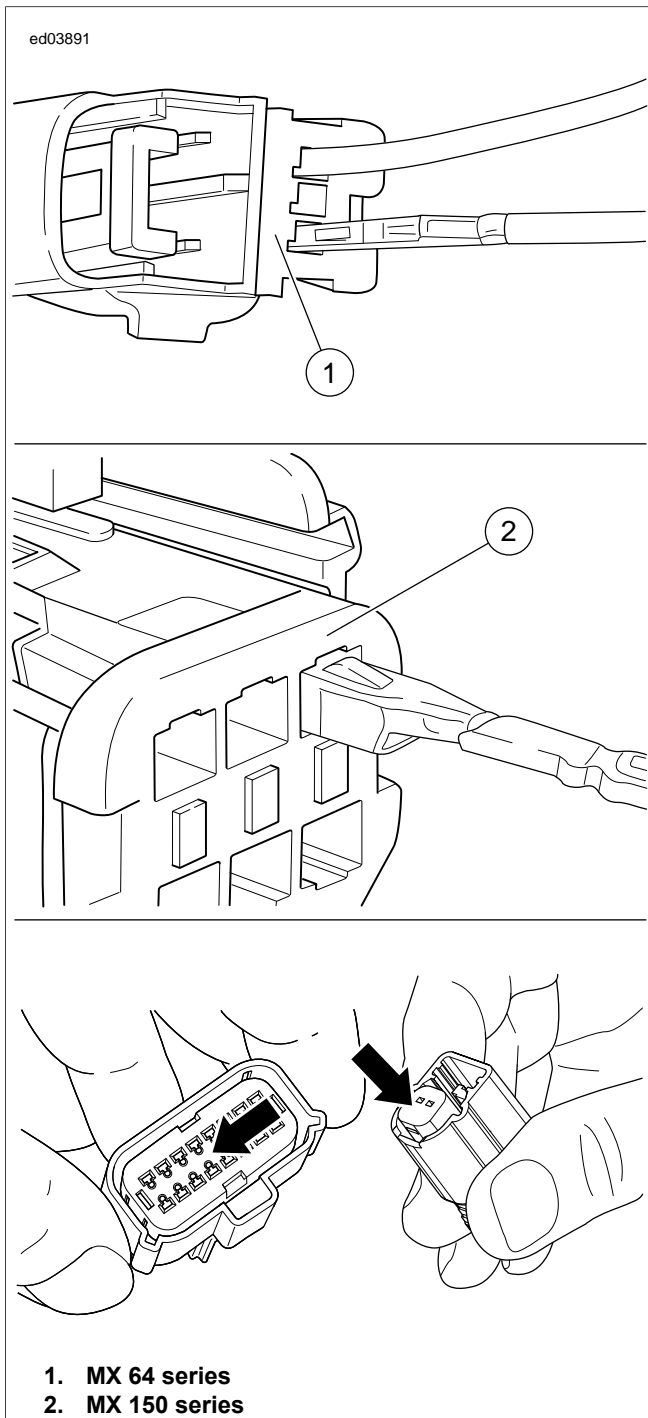

Figure B-29. Terminal Installation
1. See Figure B-29. With secondary lock unlocked, align the terminal to rear of connector.
3. See Figure B-29.